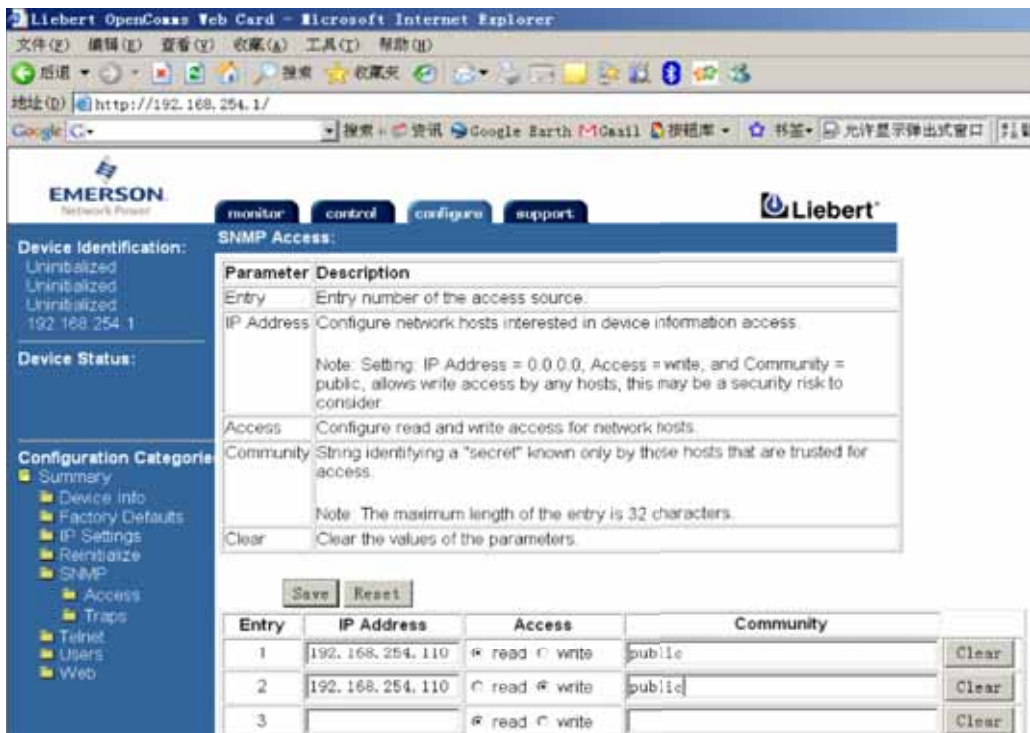

Figure 6-12 NMS configuration interface of SNMP host monitoring center (1)
4. Configure the Network Management System (NMS) of the host monitoring center in Figure 6-12. Click Edit and type the IP address of the NMS in IP Address. Select read or write, type 'Public' in Community and then click Save.